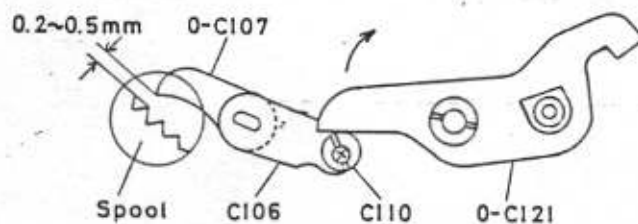

Fig. 25
- 1) At the condition R-lever does not hook with Sprocket shaft as shown in Fig. 25., the clearance between the pointed end of 0-C107 and Spool inner gear is in the range 0.2 - 0.5mm. Adjust it with C110 Eccentric collar.